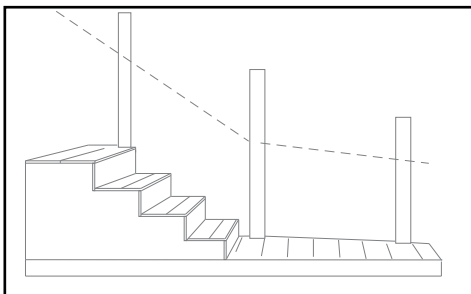

Fig. 1
- Start all Hand Rail installations by laying out and marking the desired height of the top of the Hand Rail on all posts and mounting surfaces - Fig. 1. This Hand Rail layout line will be used in the following steps for mounting all components.